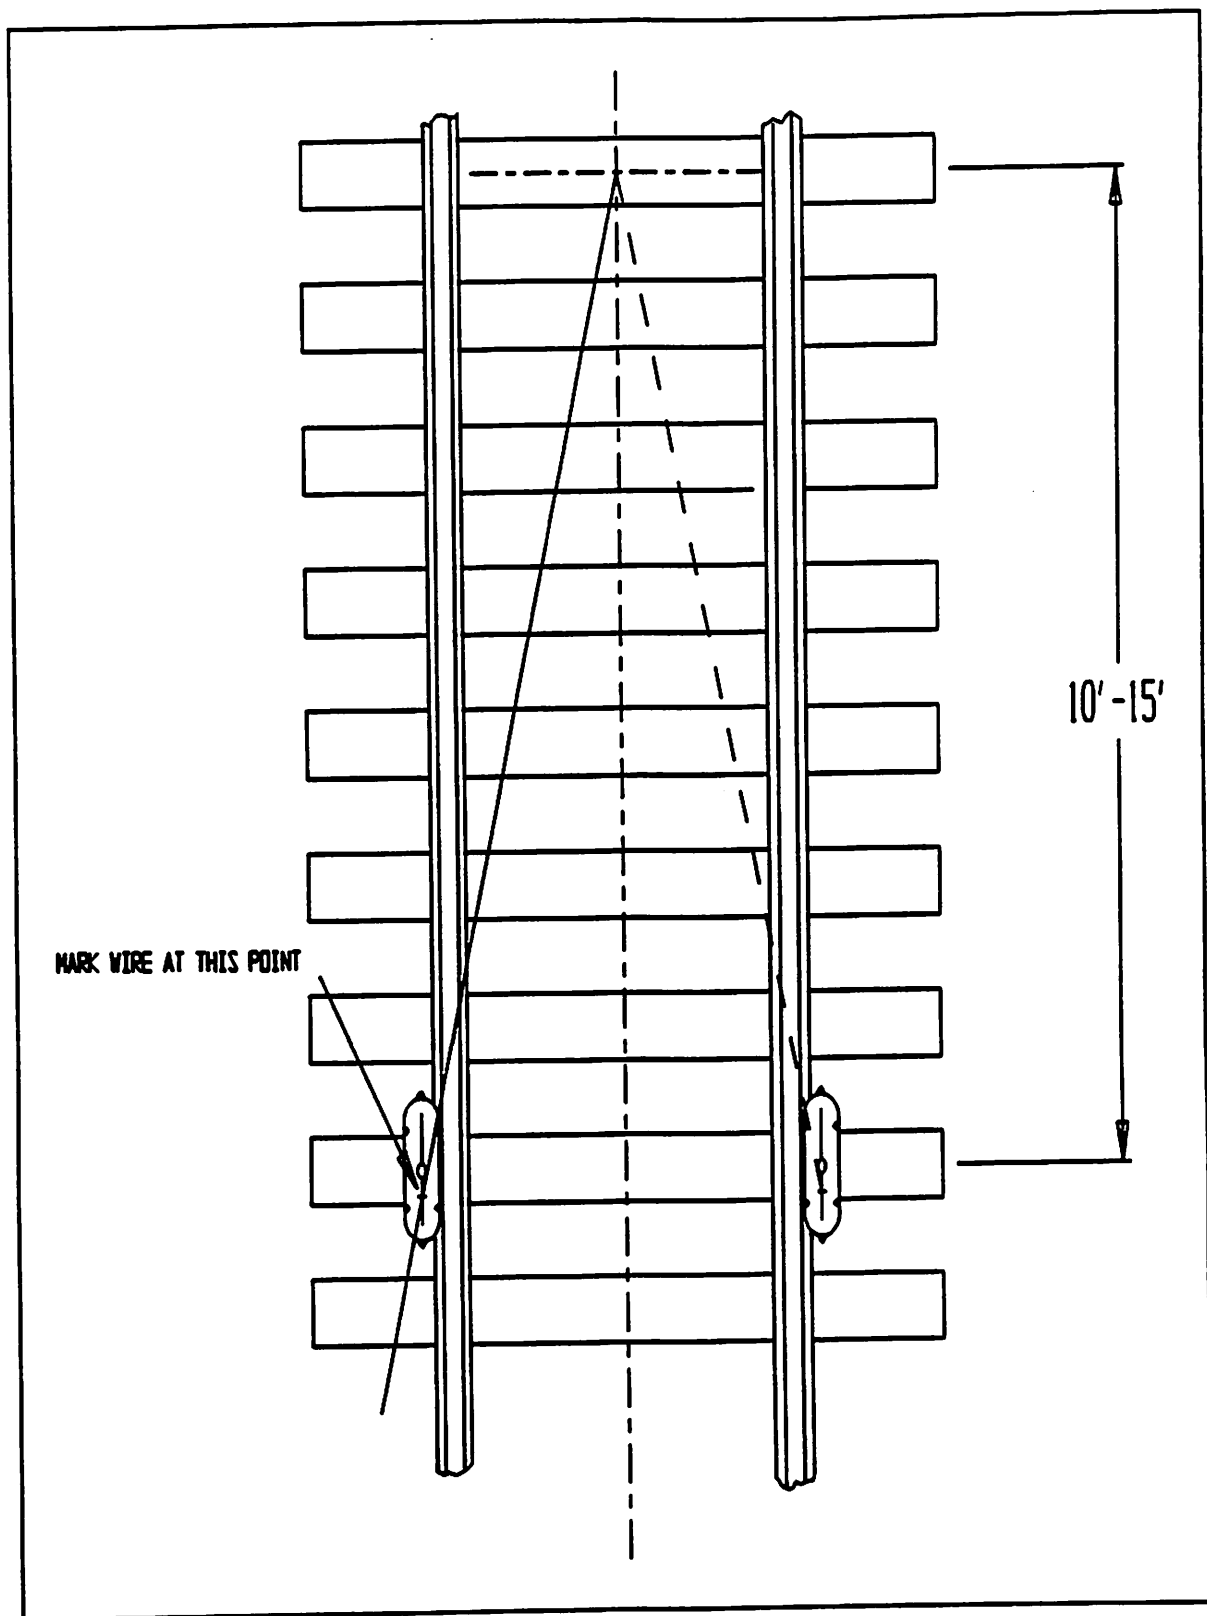

Figure 1 Scanner placement using the triangulation method.
5.8.1.1 Select a tie ten to fifteen feet in front of the tie directly under the scanners. See figure 1 for the triangulation method of scanner placement.